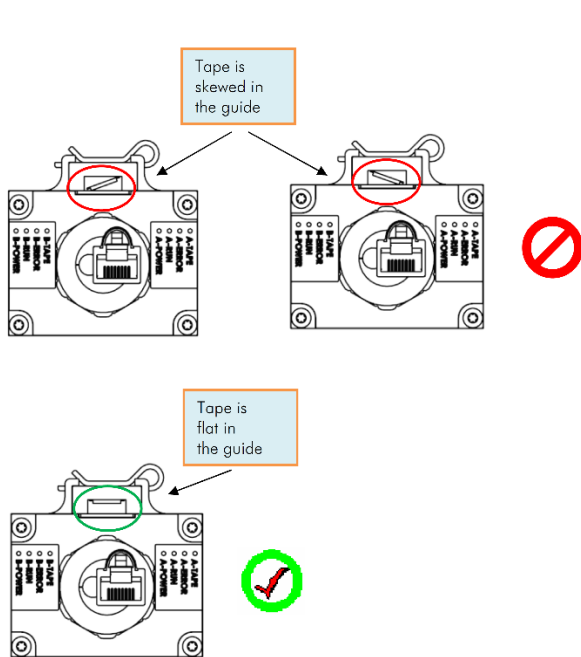

Figure 13: Angular Alignment Guideline
10. Check for proper alignment of band vs. sensor. Any angular offset should be corrected. (see Figure 13)